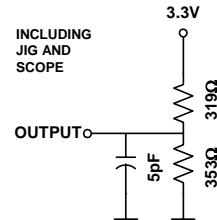

FIGURE 1B
- Transition is measured $\pm 500\text{mV}$ from steady state with CL=5pF as shown in Figure 1B. The parameter is guaranteed but not 100% tested.
10. Transition is measured 500mV from steady state with C_L = 5pF as shown in Figure 1B. The parameter is guaranteed but not 100% tested.